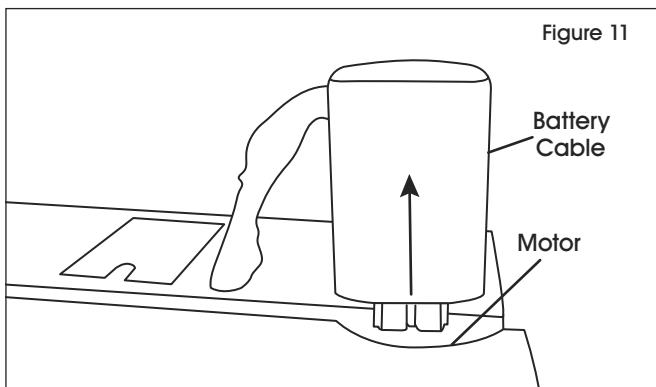

Figure 11
3. Disconnect red battery cable from motor. (See Figure 11)